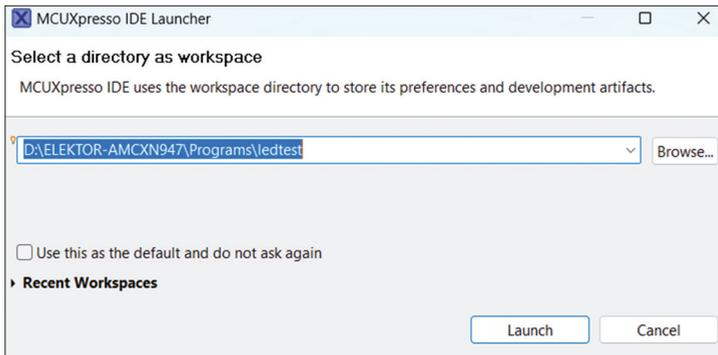

Figure 2.7: Create the ledtest workspace.
- Create Workspace **ledtest** (Figure 2.7) and click **Launch**.